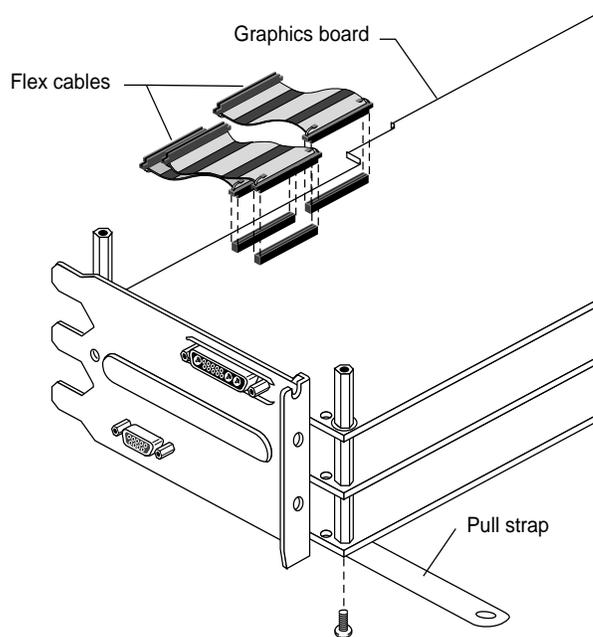
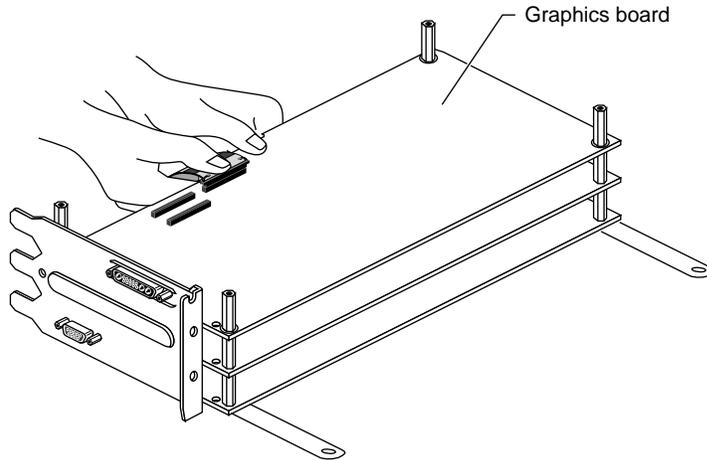
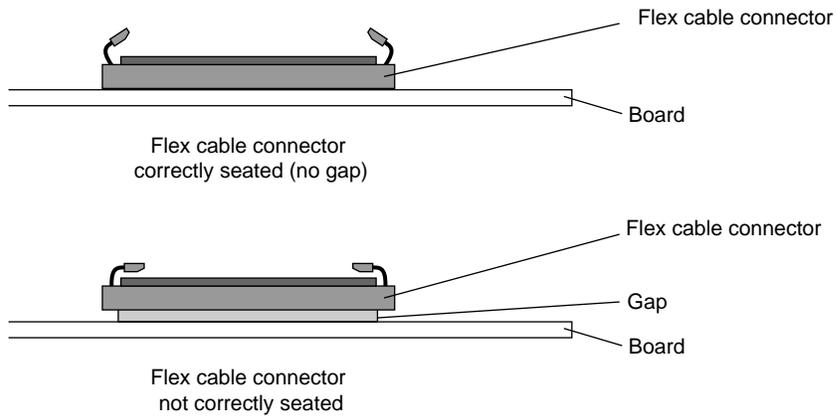

Figure 1-26 Attaching the Flex Cables to the Graphics Board
Figure 1-27 Attaching the Flex Cable Connectors
Figure 1-28 Side Views of the Flex Cable Connector
1. Attach the two flex cables to the graphics board connectors, as shown in Figure 1-26 and Figure 1-27.
2. Use your thumb and fingers to squeeze the cable connectors into the connectors on the board. (See Figure 1-27.) Attach the connectors one at a time. Figure 1-28 provides a side view of a correctly and incorrectly seated cable connector.